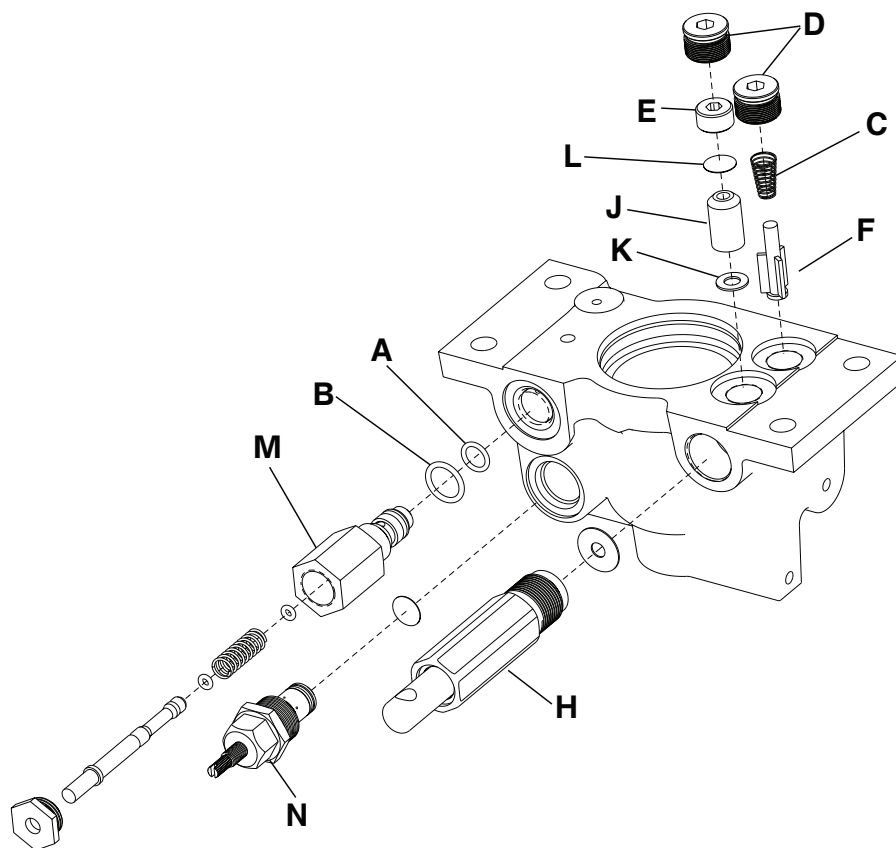

Figure 6 – Poppet valve replacement
8. Remove the base plug (D) and the seal (L) (Figure 6).
9. Remove the base plug (D) and the seal (L) (Figure 6).
10. Remove the valve plug (E).
11. Using a stiff wire with a bent, pointed end, remove the check valve (J) and the seal (K). Discard the check valve.
12. Using a 1/2" diameter rod, install the seal (K) flat to the bottom of the hole.
13. Install the supplied check valve (J) with the beveled end up.
14. Install the valve plug (E). Using a torque wrench, torque the valve plug to 10 ft-lb.
15. Install the seal (L) with the base plug (D). Using a torque wrench, torque the base plug to 10 ft-lb.
8. Using a 13/16" open end wrench, remove the adjustable PC valve (M) (Figure 6). Discard the PC valve.
10. Install the supplied PC valve. Moisten the O-ring seal (B) with hydraulic fluid to make sure that the O-ring seals tight.